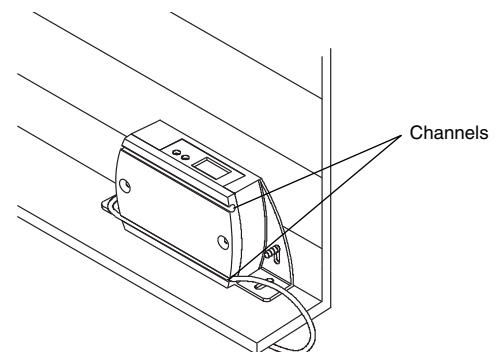

FIGURE 2
6. Attach transmitter unit with nuts and lockwashers (Refer to page 3 figure 6). Route cable or hose through channel on front of cover (Refer to page 2, figure 2).